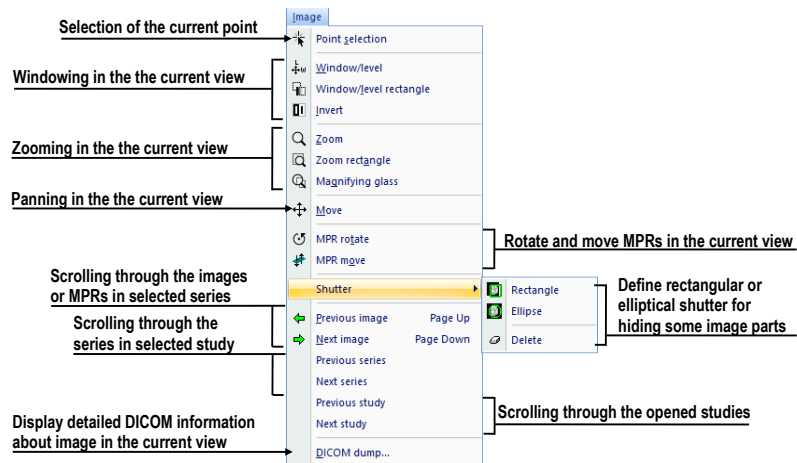

Figure 41 – Image menu
- **Image** – viewing and handling of the images. Contains a comprehensive group of functions for windowing and zooming images in a view, creating shutters and reading raw DICOM data of images (see Figure 41).